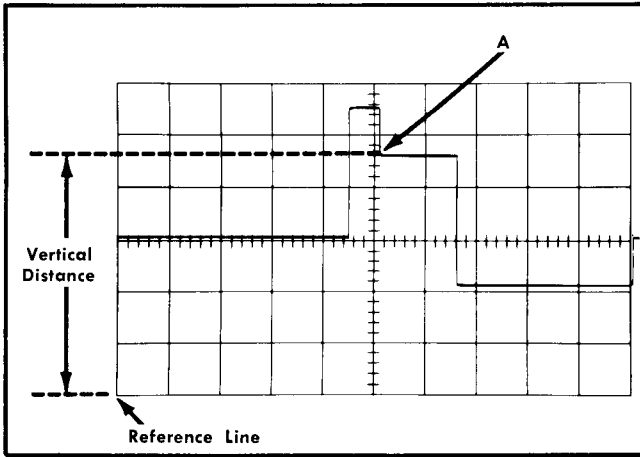

Fig. 2-15. Measuring instantaneous dc voltage with respect to a reference.
9. Measure the distance in divisions between the reference line and the point on the waveform at which the dc level is to be measured. For example, in Fig. 2-15 the measurement is made between the reference line and point A.
Example. Assume that the vertical distance measured is 4.6 divisions (see Fig. 2-15), the waveform is above the reference line, using a 10× attenuator probe and a VOLTS/DIV setting of 2.